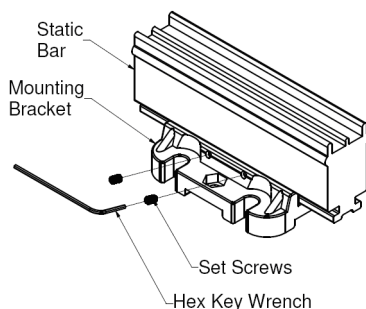

Figure 4. Securing the Static Bar
- NOTE!** – There should be **NO** grounded metal such as an idler roller immediately behind the web on the far side from the static bar. The area behind the static bar should be as free as possible from grounded metal. Refer to **Figure 4**.
7. Locate the set screws and the hex key wrench and install two (2) set screws into the holes in the side of the mounting bracket. The set screws engage the “T” slot on the back of the bar securing it in place (**Figure 4**).